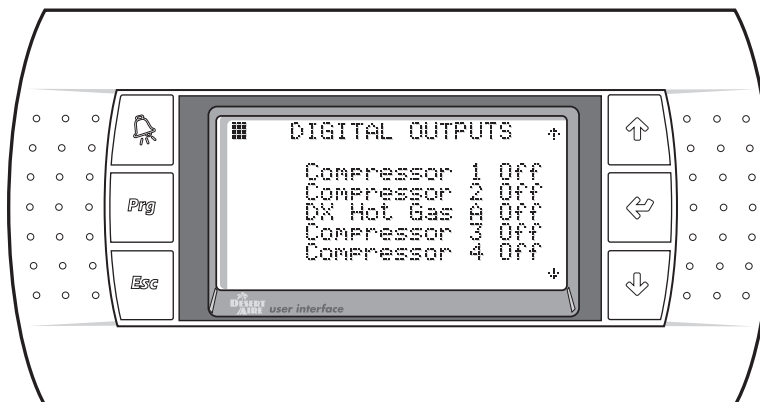

Figure 14
2.3.2.3 Digital Outputs (Figures 14 - 16)
The Digital Output screens will show the state of the devices wired into the controller. These screens are provided for troubleshooting of the control system. Figure 14 is shown as an example of what these screens looks like. Refer to your schematic diagram for the specific devices provided. Please note that these devices can be wired into ports J12, J13, J14, J15, J16, J17 and J18 of the controller as well as into the expansion I/O devices.